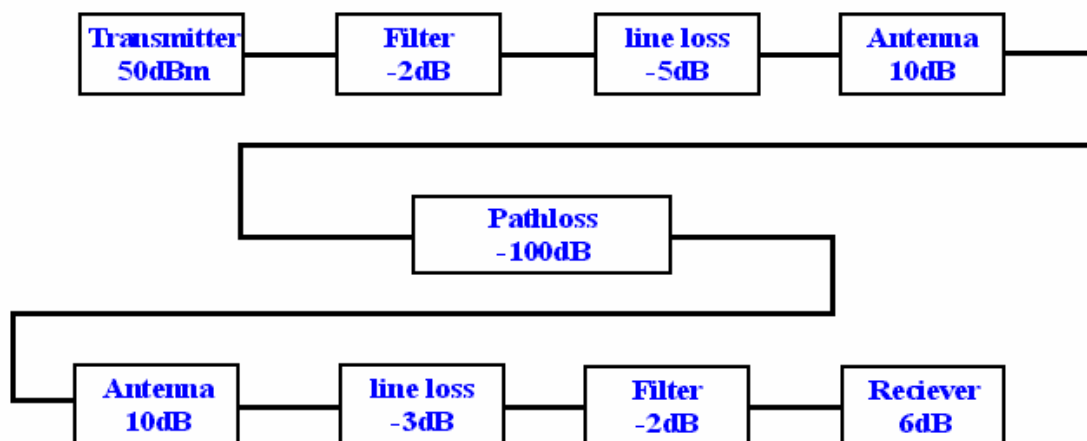

Figure 1.
Here is an example of the use of decibels. Refer to the block diagram in figure 1, of a transmitter and receiver system.
Figure 1 shows two wires connected to a radio frequency (RF) generator, and at a certain point the two wires have been split to form an antenna.
Figure 1 shows (the green arrows) the charges moving towards the ends of the antenna. The black semi circles are the electric field lines set up by the charges (current). I am not showing the magnetic field. As you can see the electric field expands outward from the antenna following the flow of current. When the current direction reverses, the electric field will follow the current and collapse back into the antenna returning all of the energy to the RF source.